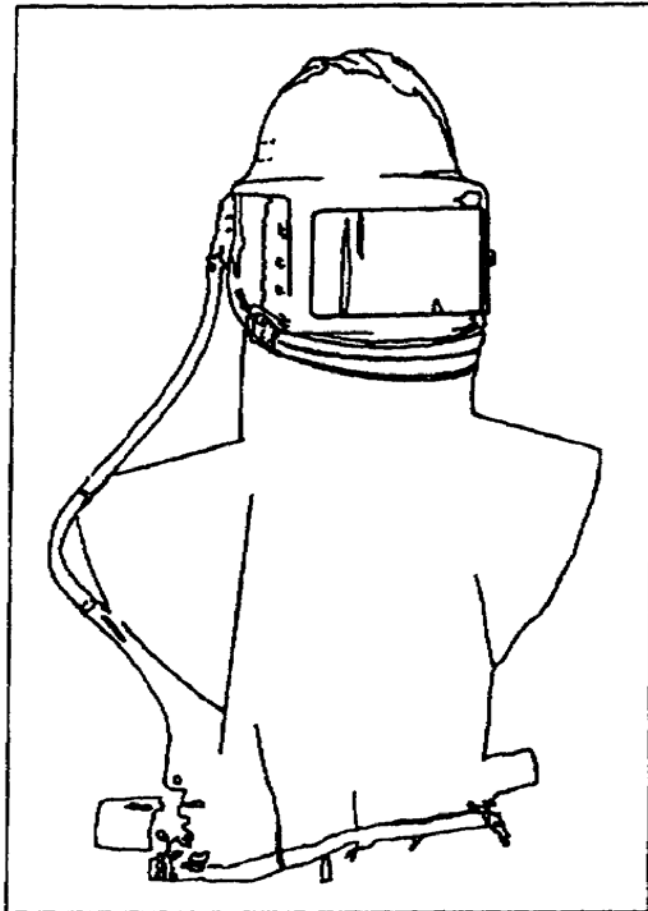

Figure 1-3. Abrasive-blasting helmet
(2) Safety helmets. Abrasive-blasting helmets (Figure 1-3) are used when you are blast-cleaning surfaces that will be painted.